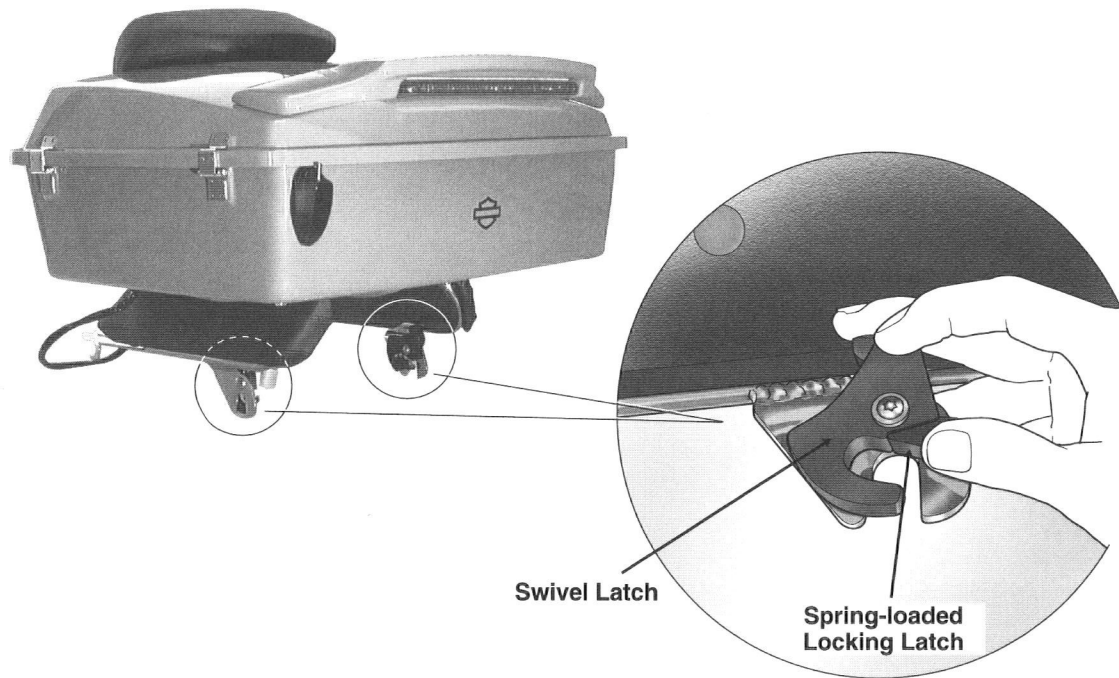

Figure 24. Luggage Rack/TOUR-PAK Removal
5. See Figure 24. Remove the TOUR-PAK assembly by placing a thumb on **each** of the spring-loaded locking latches, and your index finger on the swivel latch.